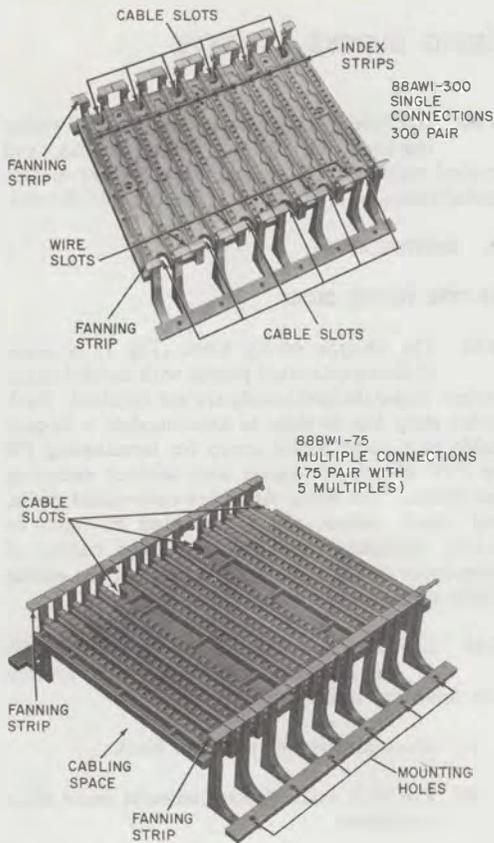

Fig. 1—88-Type Wiring Block
2.01 The 88-type wiring block (Fig. 1) is made of flame retardant plastic with molded index strips. Separate backboards are not required. Each index strip has 50 slots to accommodate a 25-pair cable or a color binder group for terminating PE or PVC 22-, 24-, 26-gauge wire without removing insulation. The index strips are color-coded white, red, black, yellow, violet, from left to right, in 5-pair segments to match the color coding of even-count cables. The various parts of the wiring block are shown in Fig. 1.